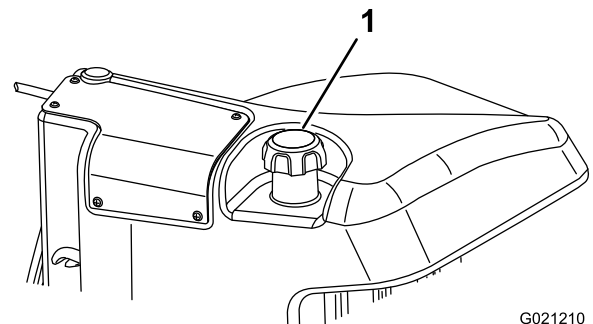

Figure 31
3. Remove the cap from the fuel tank (Figure 31).